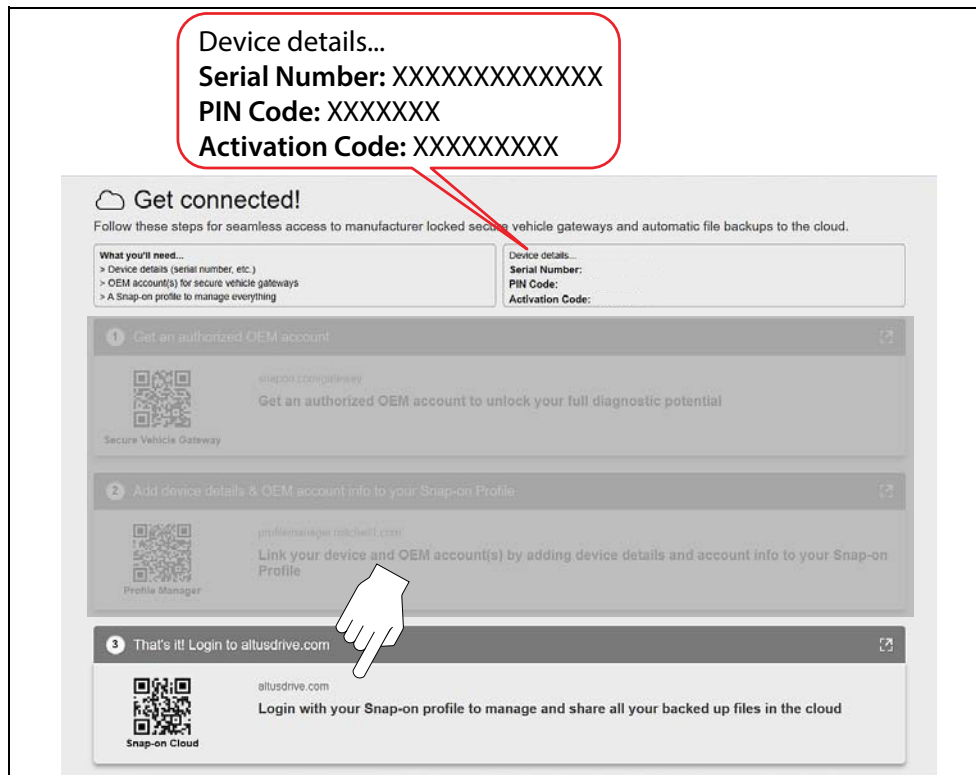

Figure 17-2
2. From the Home screen, select **System Settings > Get Connected**, and write down the Serial Number, PIN and Code that are displayed (Figure 17-2).
The PIN and Code numbers will change each time you view the Get Connected screen (Figure 17-2). This is normal, any displayed set of PIN and Code numbers may be used to register.
3. Select the weblink (Figure 17-2) to open the Login page.